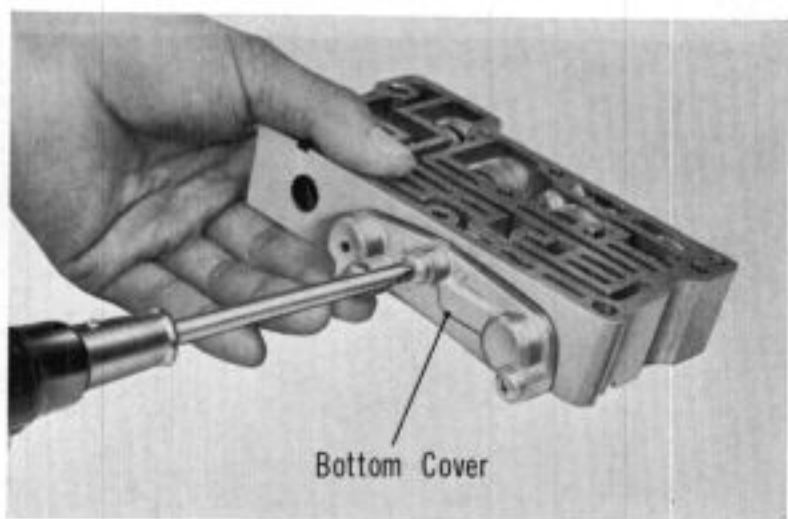

Fig. 7B-70
4. The valve components which can be taken out by removing the bottom cover is removed are; (Fig. 7B-71)